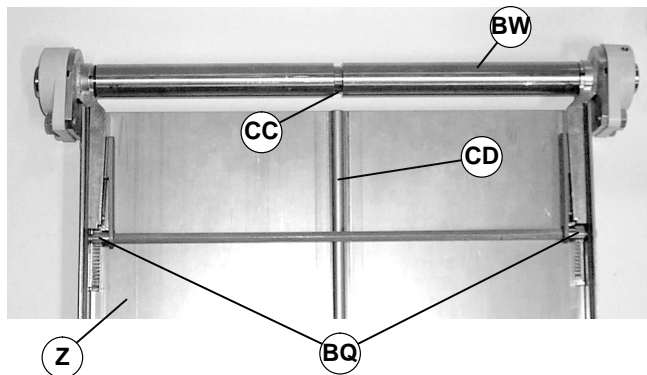

Figure 48
IMPORTANT: During idler pulley installation, orient both pinion ends (BQ of Figure 48) so they engage the same tooth positions on their respective racks.
IMPORTANT: Before tightening set screws on bearing and head plate assemblies, make sure that center of groove (CC of Figure 48) on spindle (BW) is in line with center of groove (CD) on conveyor (Z).
7. Make sure center of groove (CC of Figure 48) on spindle (BW) is aligned with center of groove (CD) on conveyor (Z).